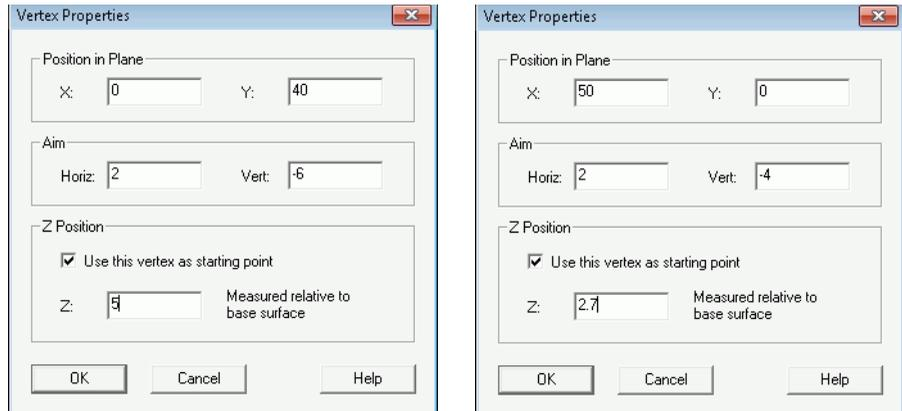

Figure 1.25 Changing height (Z position) of starting point for S2 (left) and S3 (right)
- 3 Change the position for **Z** to 5 mm above the base surface, as shown in Figure 1.25 (left side).
- 4 Proceeding in a similar fashion, change the lower left vertex (starting point) of S3 to have a Z Position of 2.7, as shown in Figure 1.25 (right side).